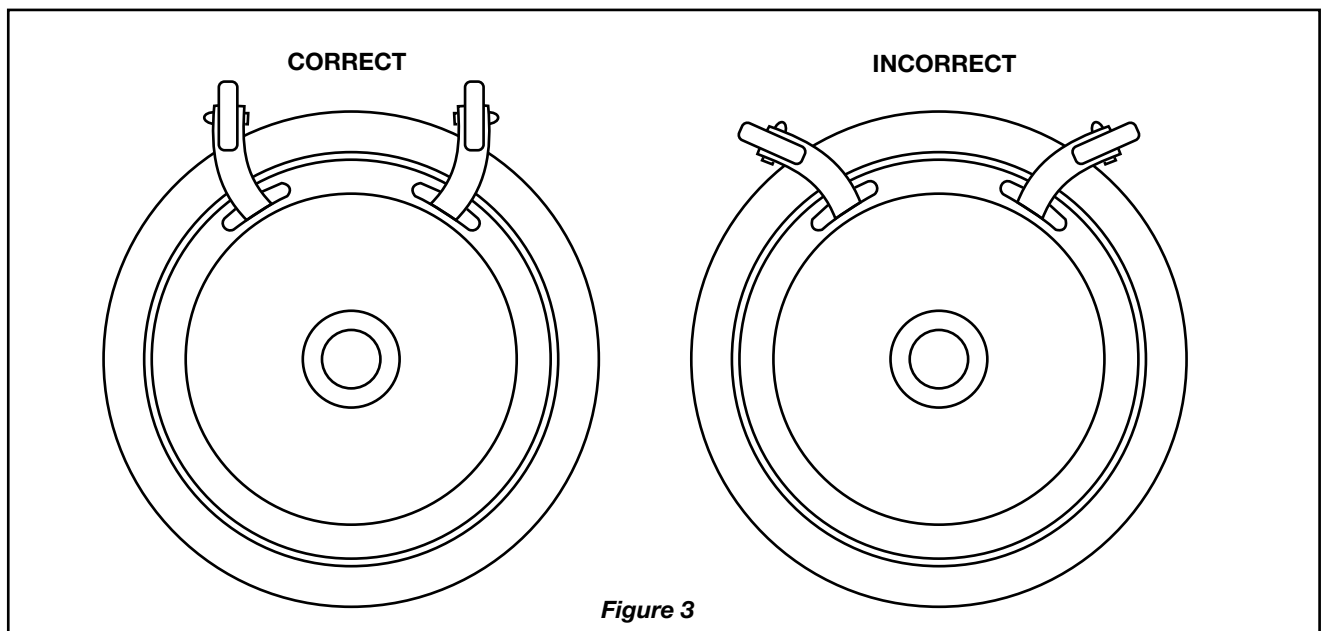

Figure 3
2. Take note that Wheel Assemblies are **RIGHT** and **LEFT** handed. (Figure 3)